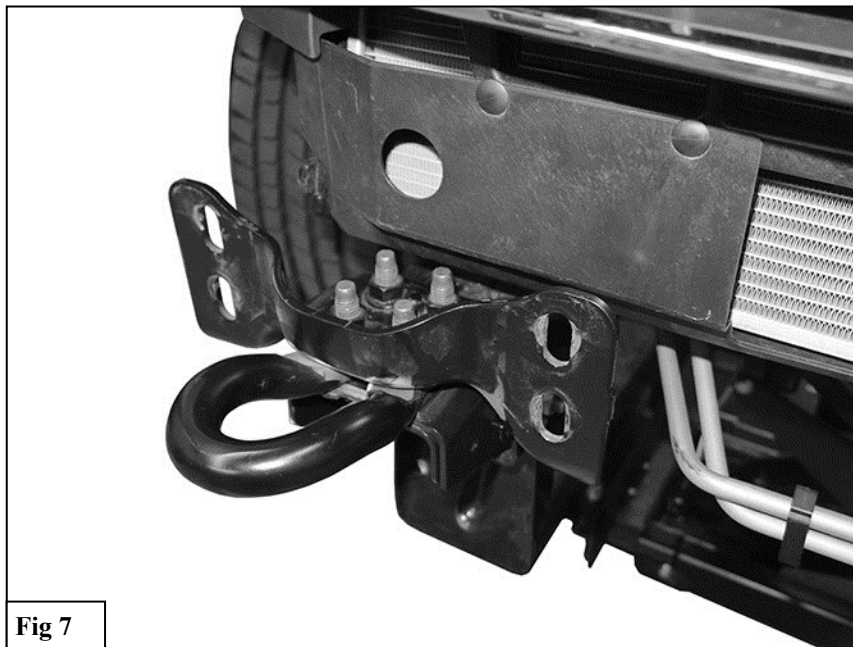
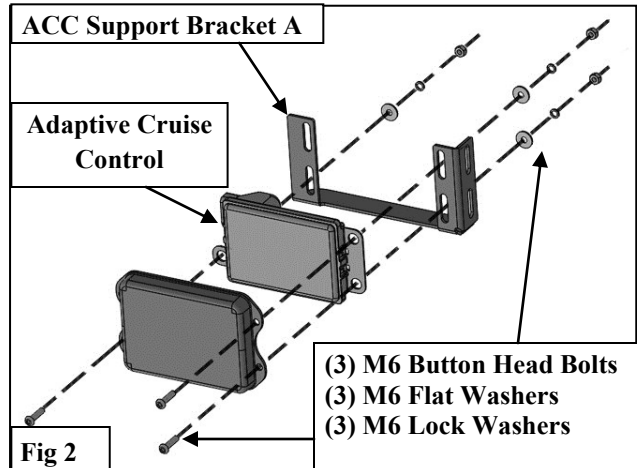

Fig 7
Fig 2
5. Remove the passenger/right side tow hook from the end of the frame, (**Figure 7**). Next, remove the (4) factory hex nuts, lower frame extension and double bolt plates from the end of the frame, (**Figures 2 & 7**). Repeat for Driver Side.
Select the ACC Plastic Cover and the ACC Support Bracket A, (**Figure 2**). Insert (3) M6 Button Head Bolts (item 24) through the ACC Plastic Cover, the adaptive cruise control and out through the ACC Support Bracket A. Secure with (3) M6 Flat Washers (item 21), (3) M6 Lock Washers (item 22) and (3) M6 Hex Nuts (item 23), (**Figure 2**).